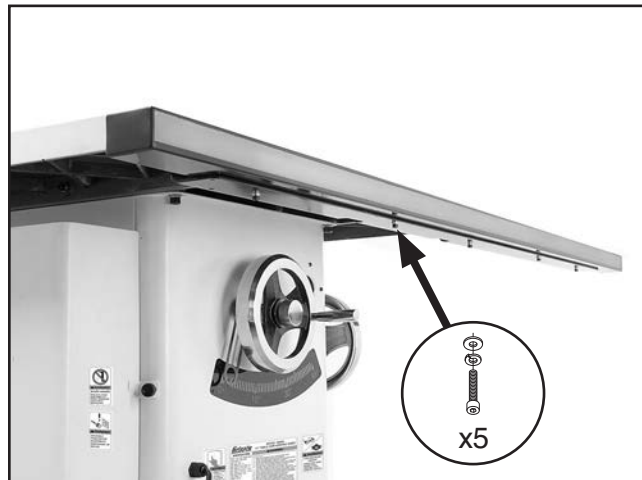

Figure 20. Model G0691 tube attached to front rail.
- G0691 ONLY:** Install the 82" front rail rectangular tube onto the 70" front rail with (5) M6-1 x 16 cap screws, 6mm lock washers, and 6mm flat washers, as shown in **Figure 20**.